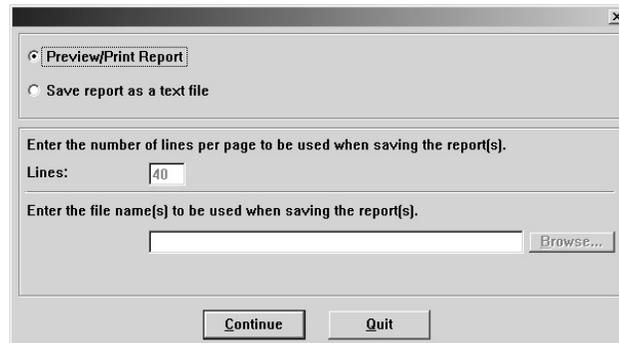

Figure 6-18. Choose Report or Text File
6. Click on **Report** if you wish to view all the courses pending ACE recommendations. The Choose Report or Text File dialog box (Figure 6-18) opens.